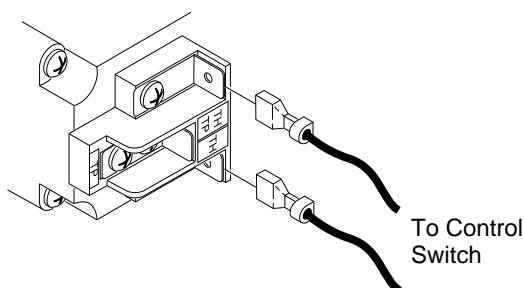

Figure 20 - Control Valve Terminals
5. Connect one terminal of the wire from ON/OFF switch to the THTP terminal on the valve. Connect remaining wire terminal to the TH terminal on the valve. Make sure that the wire terminals are in the positions on the unit as pictured in Figure 20. If wires are not connected as shown, the ON/OFF switch will not work.